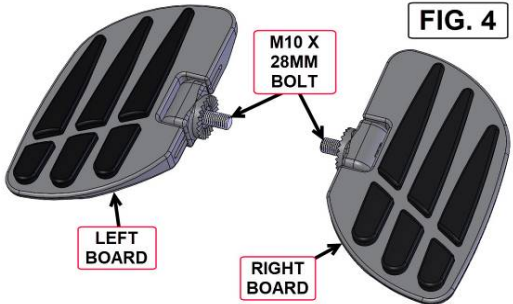
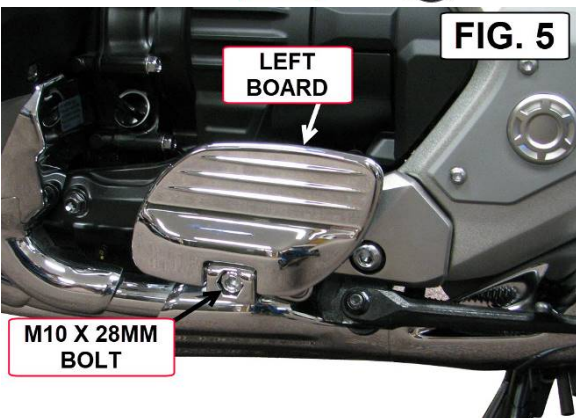

FIG. 4
FIG. 5
5. USING FIG. 4, 4A, OR 4B FOR REFERENCE INSTALL THE LEFT BOARD ON THE LEFT MOUNT USING THE SUPPLIED M10 X 28MM BOLT. SEE FIG. 5. (NOTE: IF INSTALLING THE COMMANDER MINI BOARDS, BBP P/N 21-327BK, THEY ARE IDENTICAL LEFT AND RIGHT.)